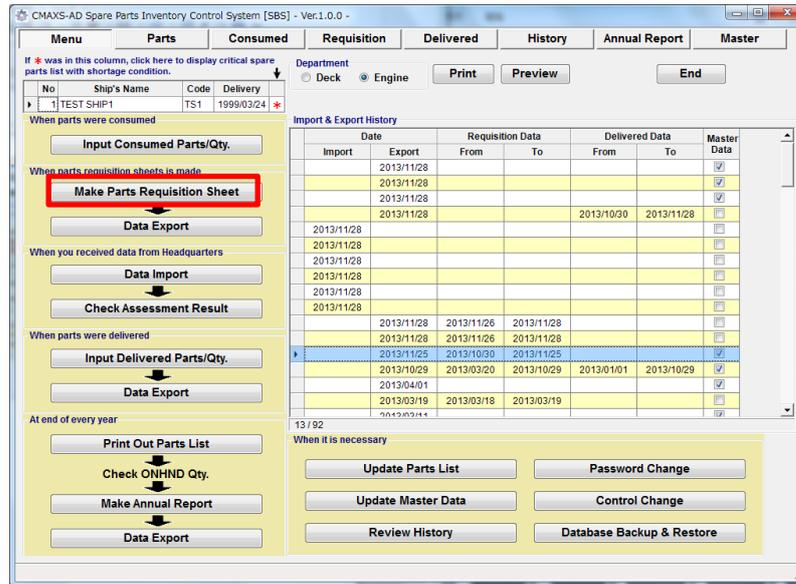

Fig 6.1 Menu
1. On the “Menu Screen”(Fig.6-1), select [Make Parts Requisition Sheet].